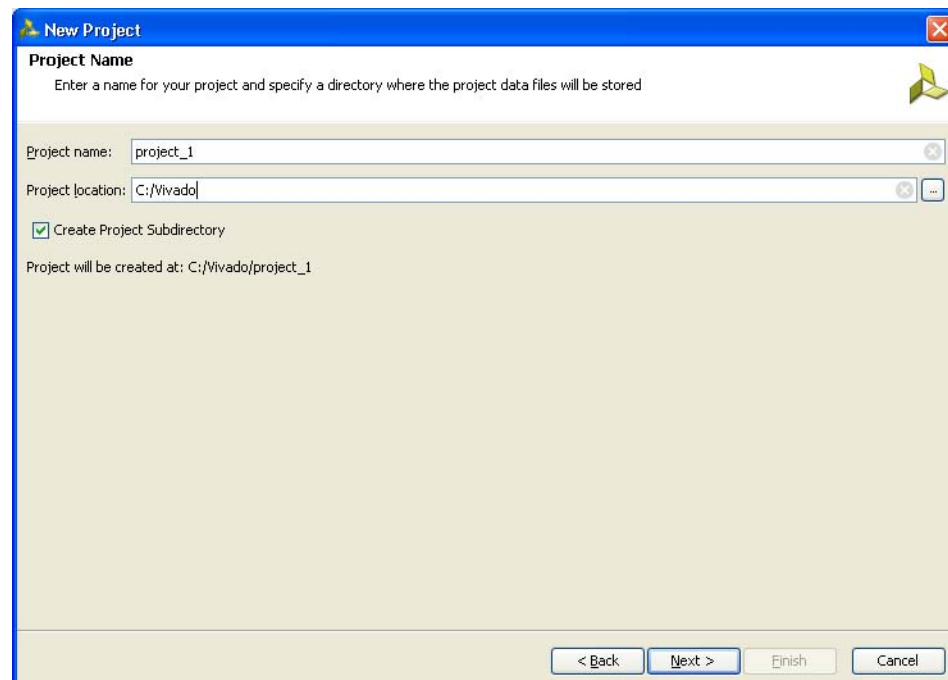

Figure 1-3: Project Name
3. Click **Next** to proceed to the **Project Name** page (Figure 1-3). Enter the **Project Name** and **Project Location**. Based on the details provided, the project is saved in the directory.